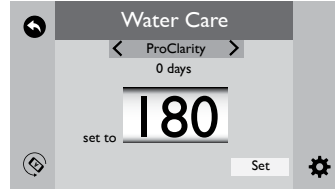
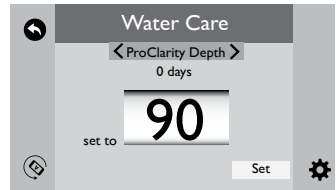

Figure 12.6d
Figure 12.6e
1. When you enter the “Water Care” Menu, Figure 12.6c, tap < or > until you reach the “ProClarity” option, Figure 12.6d.
1. When you enter the “Water Care” Menu, Figure 12.6d, tap < or > until you reach the “ProClarity Depth” option, Figure 12.6e.
1. While in the “Water Care” Menu, Figure 12.6e, tap < or > until you reach the “Water Change” option, Figure 12.6f.